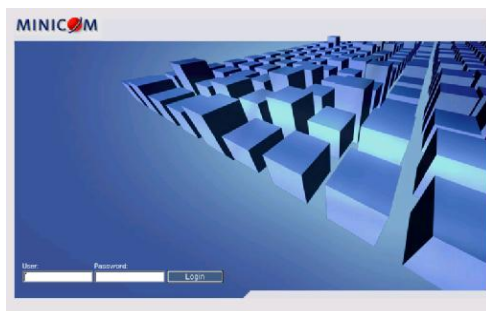

Figure 8 Login page
2. Type the DXU IP II system IP address - `https://IP address/config` - and press **Enter**. The login page appears, see Figure 8.